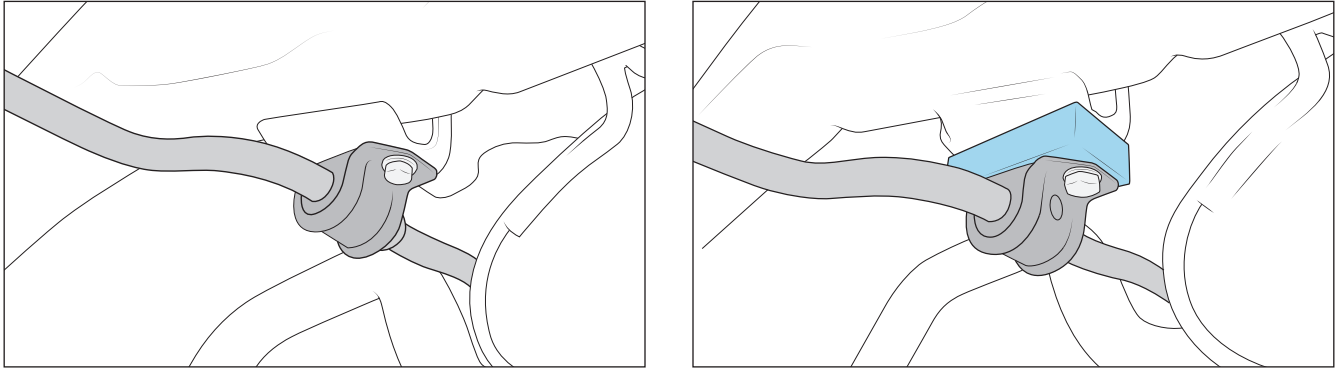

Figure 4: Gas Engine Vehicles Only
5. **Gas engine vehicles only:** Remove the sway bar from the frame and discard hardware. Reinstall in same orientation using supplied M10 bolts and spacer blocks between sway bar mounting brackets and frame. Torque to 50 ft-lb. (Fig 4)